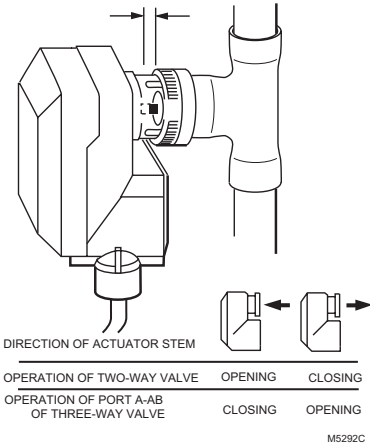

Fig. 4. Mounting actuator to valve.
3. Screw the actuator connector onto the body of the valve (Fig. 4).